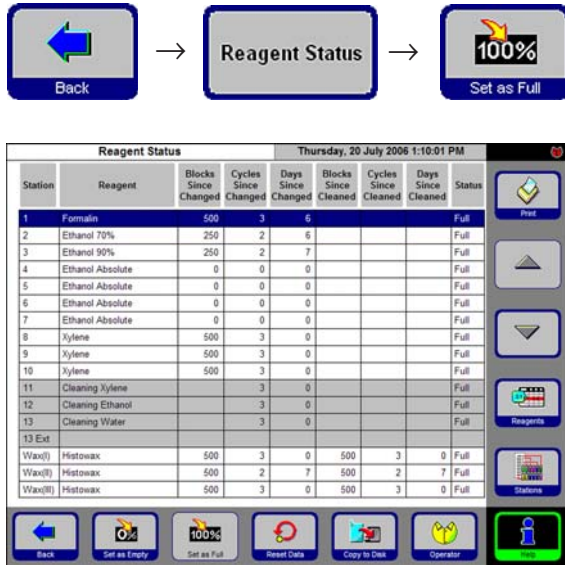

Fig. 57
- Press **BACK** and **REAGENT STATUS** to access the reagent status table (Fig. 57). Highlight the wax bath you just filled and press **SET AS FULL**.